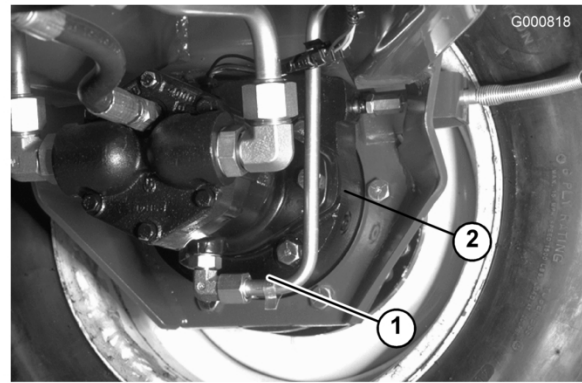

Figure 55
3. Remove both plugs from the bottom of the brake housing and allow the oil to drain (Figure 55).